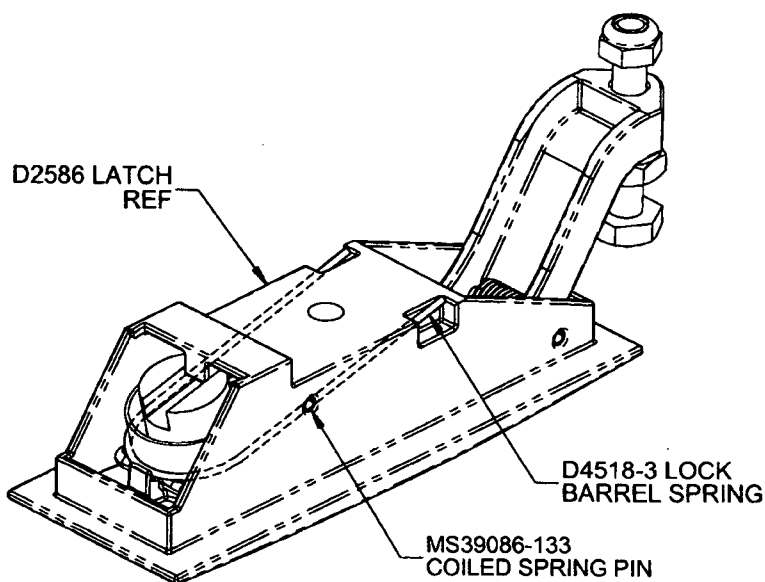

FIGURE 2: LOCK BARREL SPRING REPLACEMENT (DSI 9585-013)
- 3) Install D4518-3 Lock Barrel Spring by inserting provided MS39086-133 Coiled Spring Pin in place using adequate tool. Refer to Figure 2 of this service instruction.